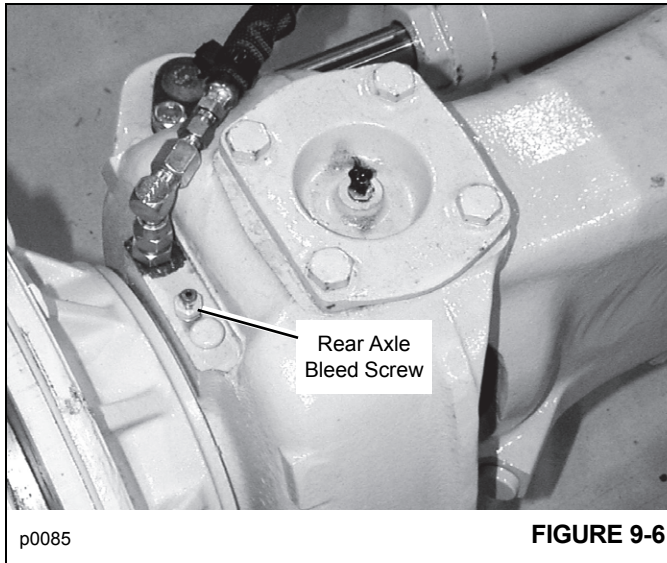

FIGURE 9-6
2. Attach a tube to the right hand bleed screw **A** Figure 9-6 ensuring that the free end of the tube is immersed in fluid contained in a suitable container.